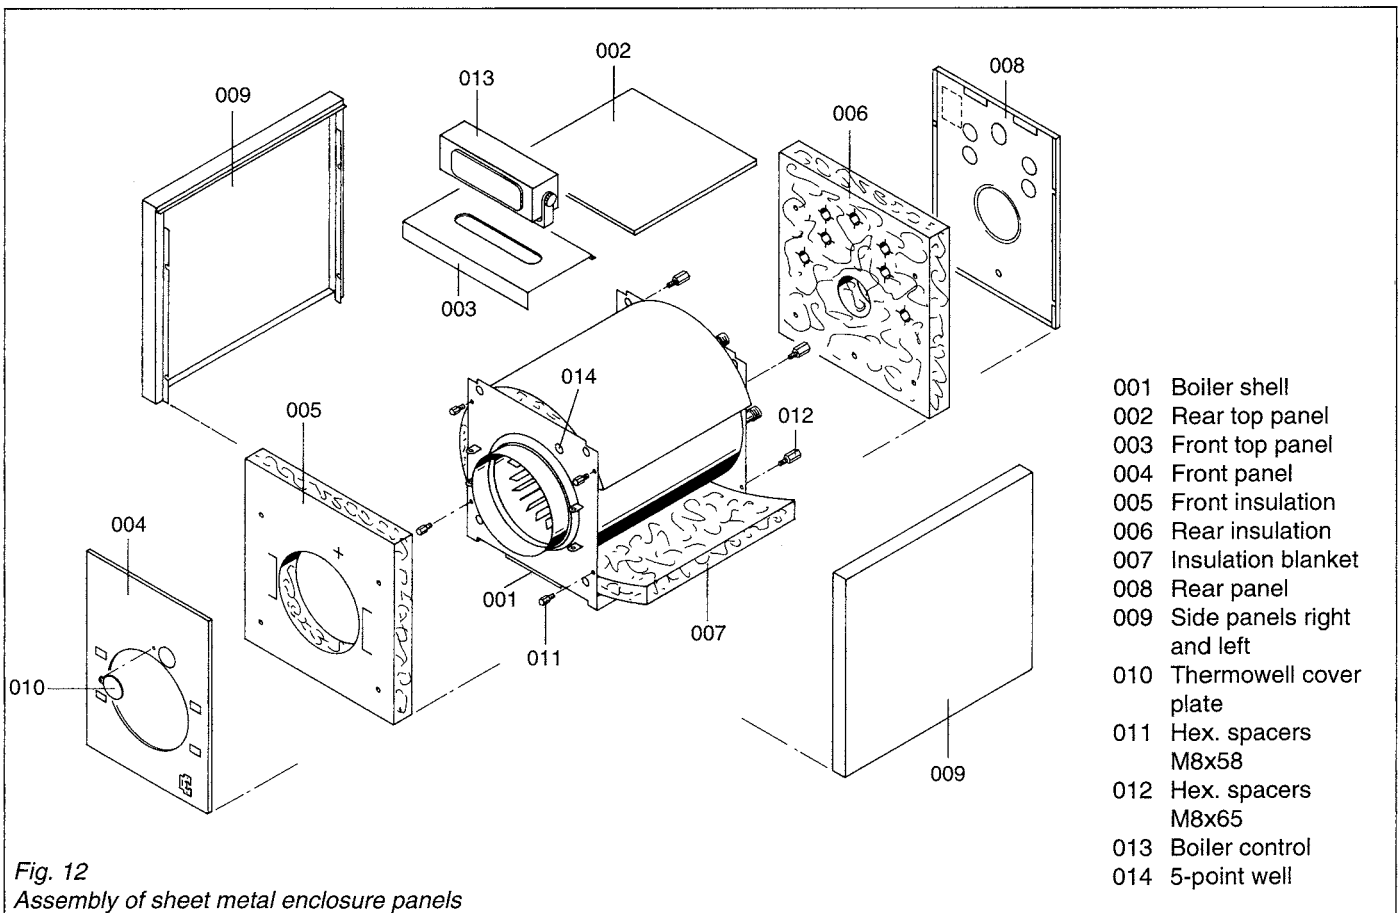

Fig. 12
2. Attach hexagon spacers (011, 012) to front and rear corners of boiler shell (see Fig. 12).
3. Attach back panel using screws provided (see Fig. 12).
4. Attach side panels (see Fig. 12).
5. Attach front top panel, shorter of the two top panels (see Fig. 12).
8. Install front panel (see Fig. 12).